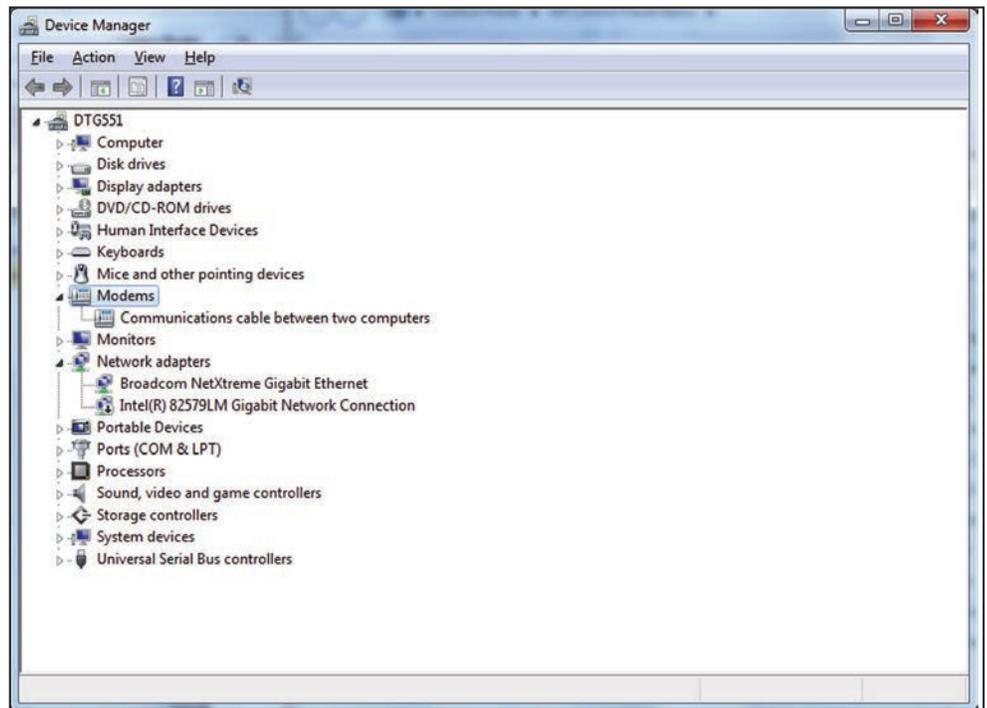

Figure 15. The Device Manager dialog box.
- STEP 1.** Open the Control Panel and select the “Device Manager” entry. Click on the “Modems” entry to expand the tree and right click on the “Communications cable between two computers” entry. See Figure 15.